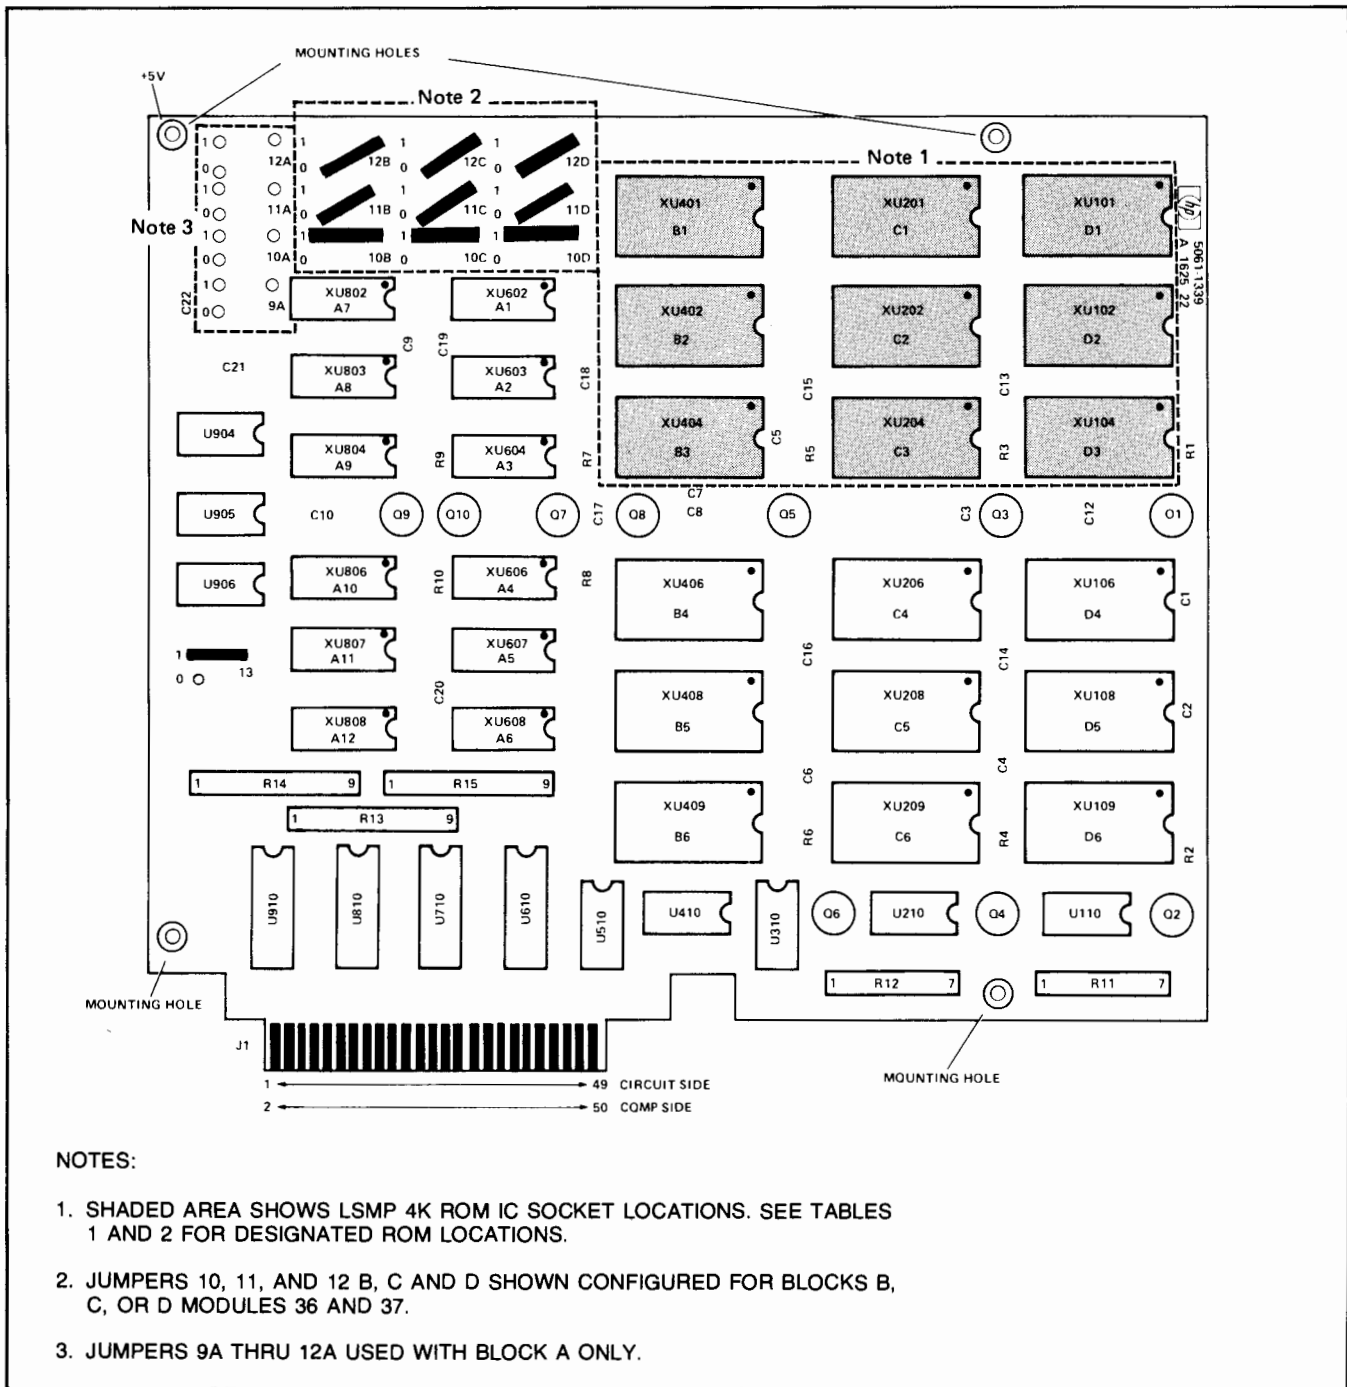

Figure 2. Firmware Accessory Board
To install the three 4K ROM IC's on the FAB, refer to figure 2 and proceed as follows:
- e. Figure 2 shows the locations of the addressable block jumpers and the ROM IC sockets. The shaded areas show the location of the ROM sockets that may be used for the EMA microcode ROMs. The EMA microprogram operates in a least significant module pair (LSMP) block; therefore sockets B1 through B3, C1 through C3, or D1 through D3 may be used (see NOTE). Install the ROM IC's as shown in table 1. Ensure that the IC's are oriented correctly as shown in figure 2 by matching the notch of each IC with the notch of each IC socket.
If DS/1000 ROMs, part numbers 91740-80018, 91740-80019, and 91740-80020, are presently installed on the FAB board, they should be residing in the MSMP of blocks B, C, or D. For this case, the EMA ROMs should be installed in the LSMP of this block. For example, if DS/1000 ROMs are occupying C4, C5, and C6, then the EMA ROMs should be installed in sockets C1, C2, and C3 (refer to table 1 and figure 2 to associate each EMA ROM with the appropriate socket).